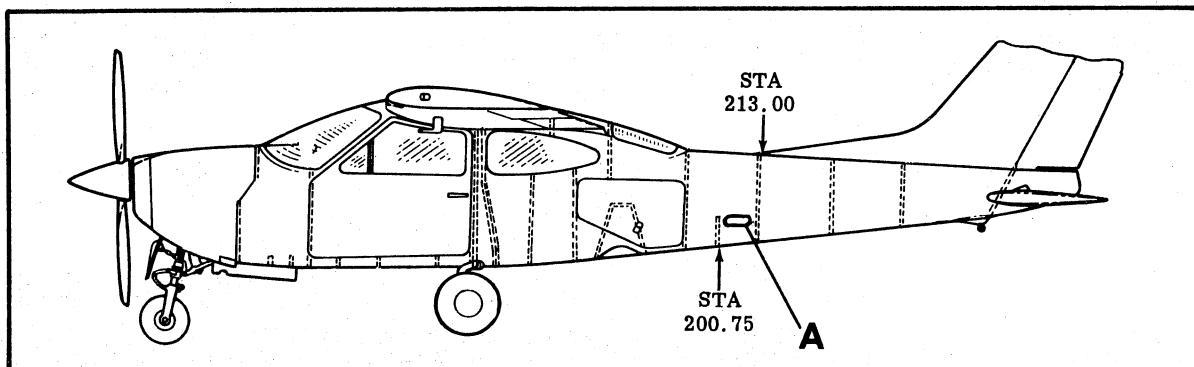

Figure 1. Ground Service Receptacle Location.
a. (Refer to figure 1.) Installation of this kit consists of:
- (1) Installation of bracket.
- (2) Installation of receptacle and diode board.
- (3) Installation of doubler on fuselage skin.
- (4) Installation of fuse and diode assembly on battery box.